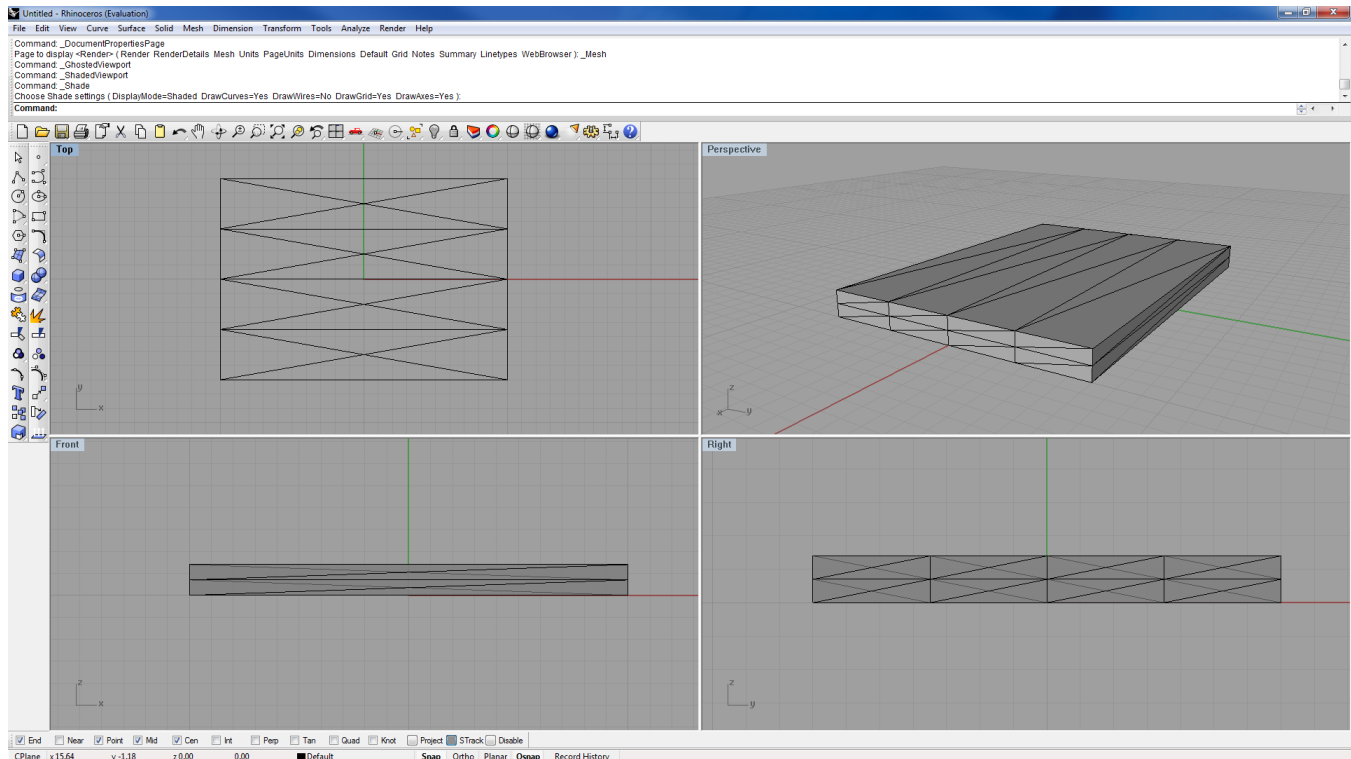

Figure 23: The poorly conditioned mesh imported in Rhino3D.
- ☞ In this case, a Wavefront OBJ file was imported that consists of a poorly conditioned box shaped geometry as shown in Figure 23.